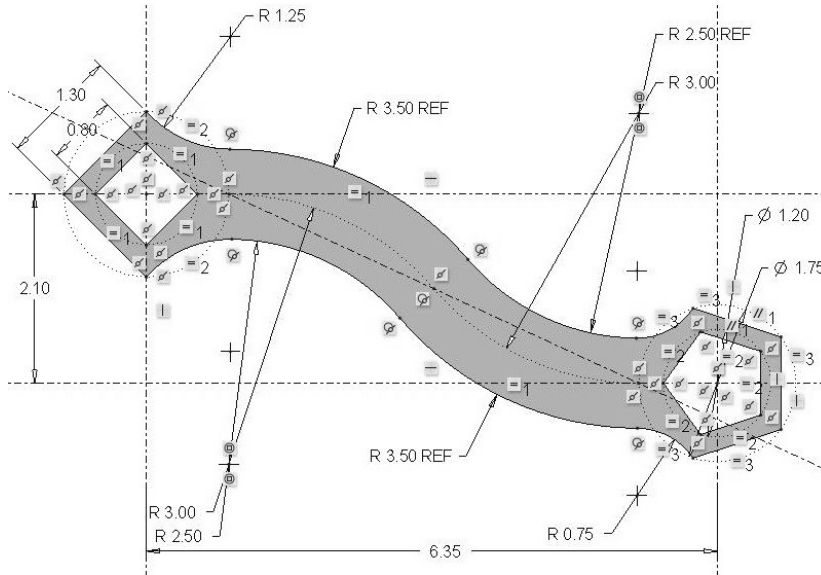

Figure 3-80 Problem 11—Special S Wrench
3.11 Challenge problem - Draw the "Special_S-wrench" (Figure 3-80). **Design Intent** — All arcs are tangent to each other and the edges of the two end shapes. The diamond shape is 1.30 inches per side. The outer pentagon fits inside a circle of 1.75 inches in diameter. The inner pentagon uses a 1.20-inch diameter circle. The 3-inch radius centerline is tangent at both ends and at its midpoint. The 0.75, 2.50, and 3.50 radius arcs are tangent to each other. (>File>Options>Sketcher, change to 2-decimal places before sketching.)